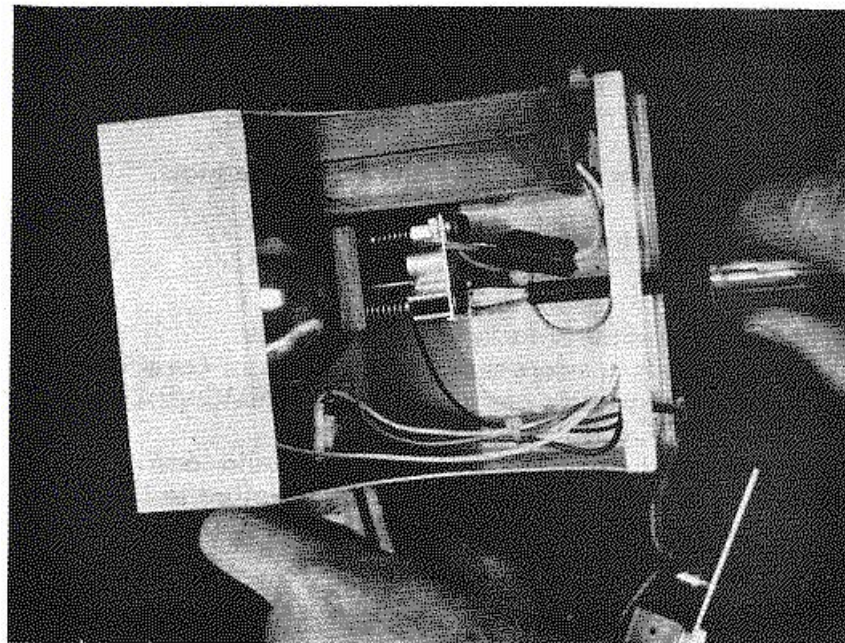

Figure 5-2. Focusing Flash Tube.
- i) Using insulated screwdriver (see note) thru rear of lamp, focus lamp by adjusting the three nylon screws holding the clamp. This allows motion of the light source both radially and in-and-out. Direct the light on a wall 10 to 30 feet distant and adjust for tightest spot possible. (1 to 2 feet in diameter, depending on distance.) (See Fig. 5-2.)
- g) Re-focus lamp as in 5-2, i and Fig. 5-2.